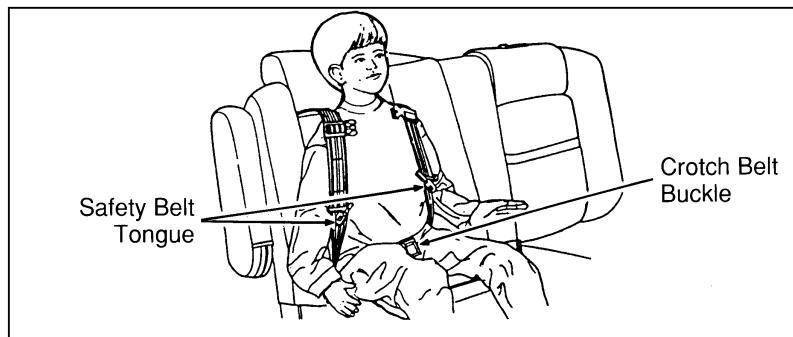

Figure 4: Shoulder safety belt placement on the child
5. Place the child on the child seat and position the shoulder belts over each shoulder. Refer to Figure 4.
3. Slide the shoulder belts off the child's shoulders and remove the child. Refer back to Figure 4.